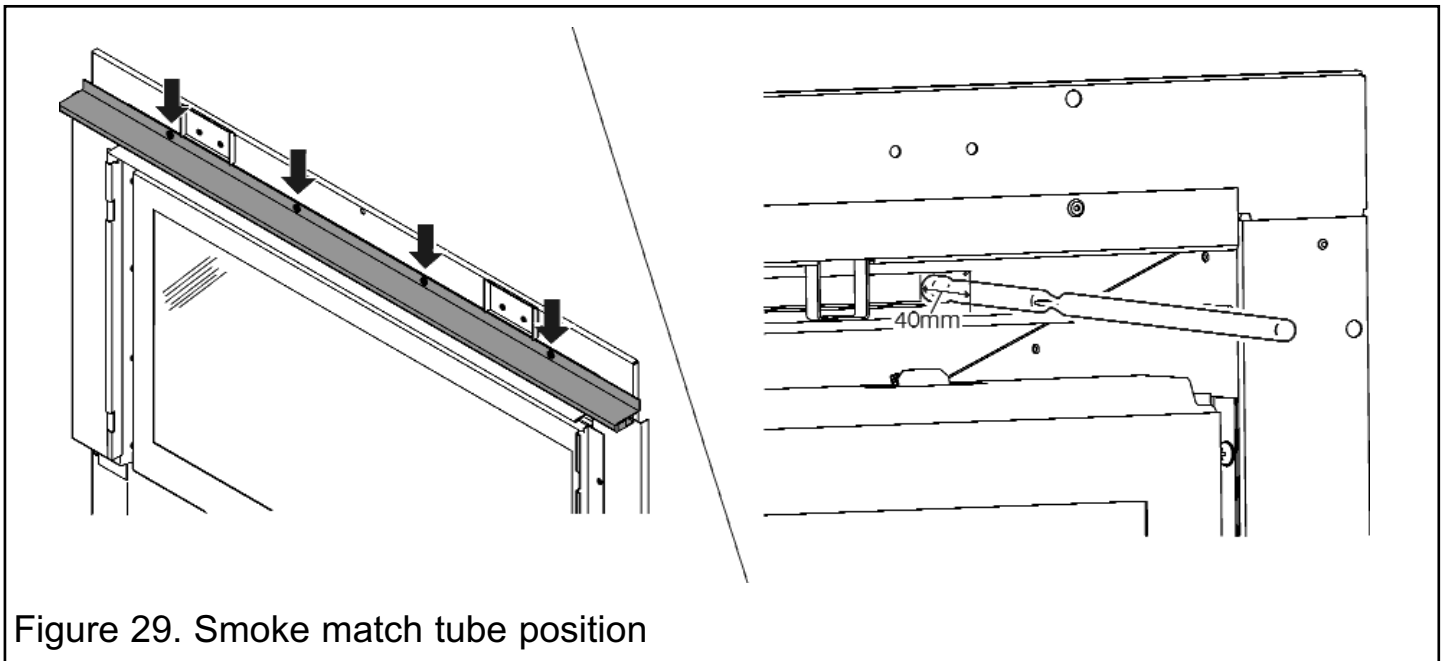

Figure 29. Smoke match tube position
2. Unscrew and remove the upper heat baffle (See figure 29). Place the heat baffle in a safe place away from the work area.
5. At the top of the heater are two openings. The upper opening has a tapered rear that has an opening of its own. The smoke match should be placed horizontally into this opening so that it touches the right hand side of the opening. It should pass the upper part of the opening by 40mm (See figure 29).